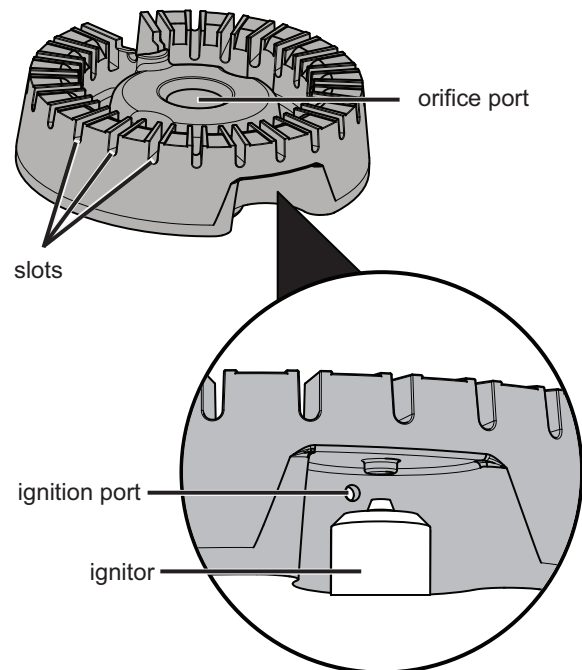

Figure 40: Sealed burner components
3. Use a toothbrush to clean all over the burner head (see Figure 40).
4. Use the toothbrush to clean the slots and holes in the burner (see Figure 40).
5. Use a needle or fine wire to clean out the ignition port (see Figure 40).